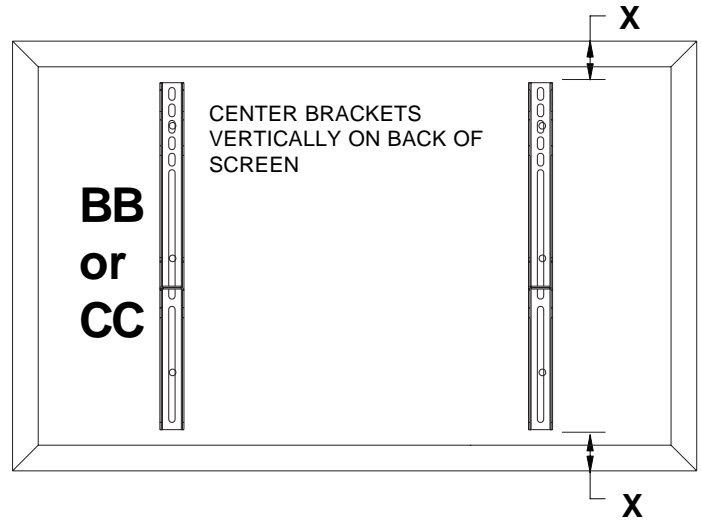
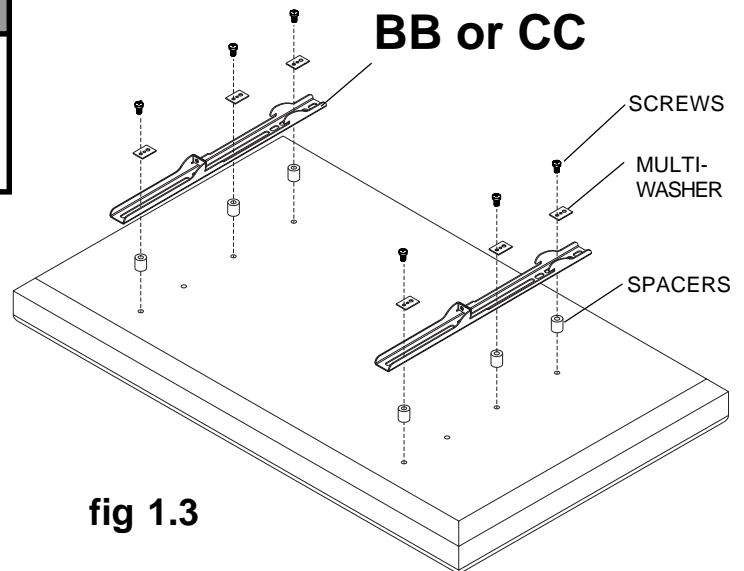

fig 1.1
fig 1.3
- 1 To prevent scratching the screen, set a cloth on a flat, level surface that will support the weight of the screen. Place screen face side down. If screen has knobs on the back, remove them to allow the adapter brackets to be attached. Place adapter brackets (**BB or CC**) on back of screen, align to holes, and center on back of screen as shown in figure 1.1. Attach the adapter brackets to the back of the screen using the appropriate combination of screws, multi-washers, and spacers as shown in figure 1.3.